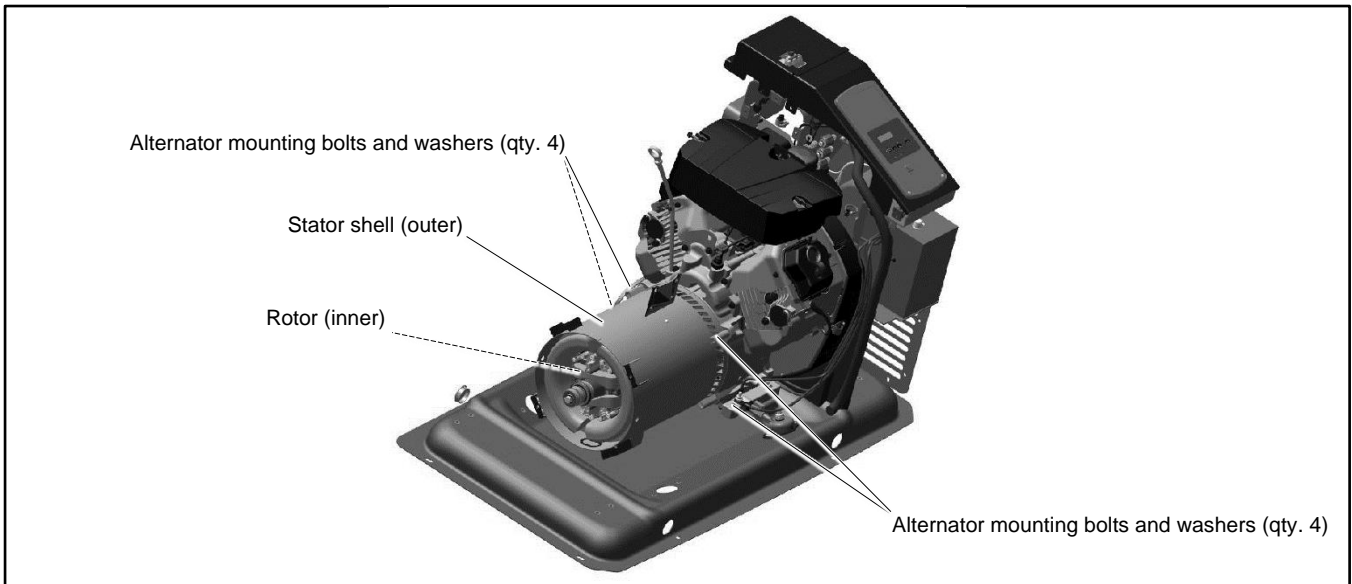

Figure 133 Alternator Mounting Bolts
- d. Install the four alternator mounting bolts with washers through the end bracket and into the generator adapter. See Figure 133.